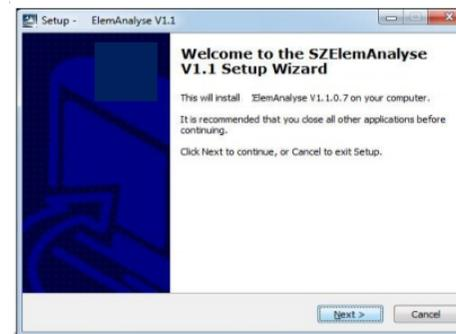

Figure 5-1
1. Open E: / Software/harmful element detection Software installation package/ harmful element detection software setup file. The system will pop up as shown in figure 5-1 interface: